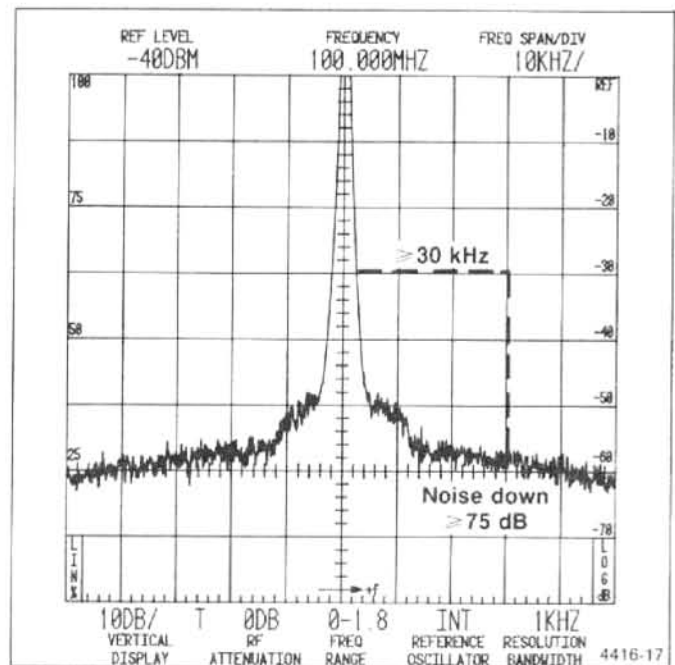

Figure 4-9. Typical display showing how to measure noise sidebands.
- c. Check the amplitude of the noise sidebands 30 times the resolution bandwidth away from the signal (Figure 4-9). Noise sidebands should be 75 dB or more below the peak signal level or 55 dB below the top of the screen.